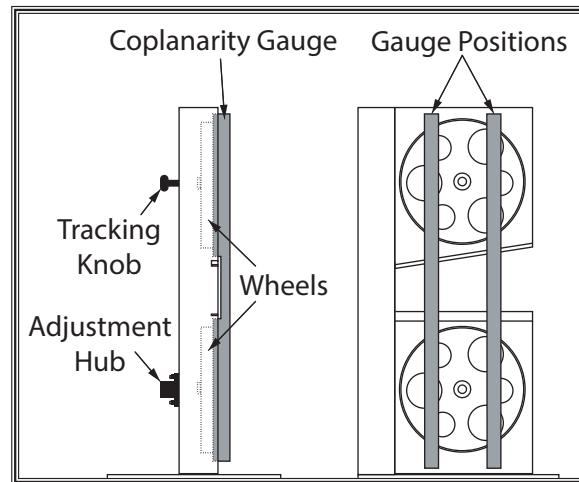

Figure 103. Illustration of using coplanarity gauge to check wheel alignment.
4. Place coplanarity gauge up against both wheels in positions shown in **Figure 103**. Make sure gauge fully extends across rims of both wheels.